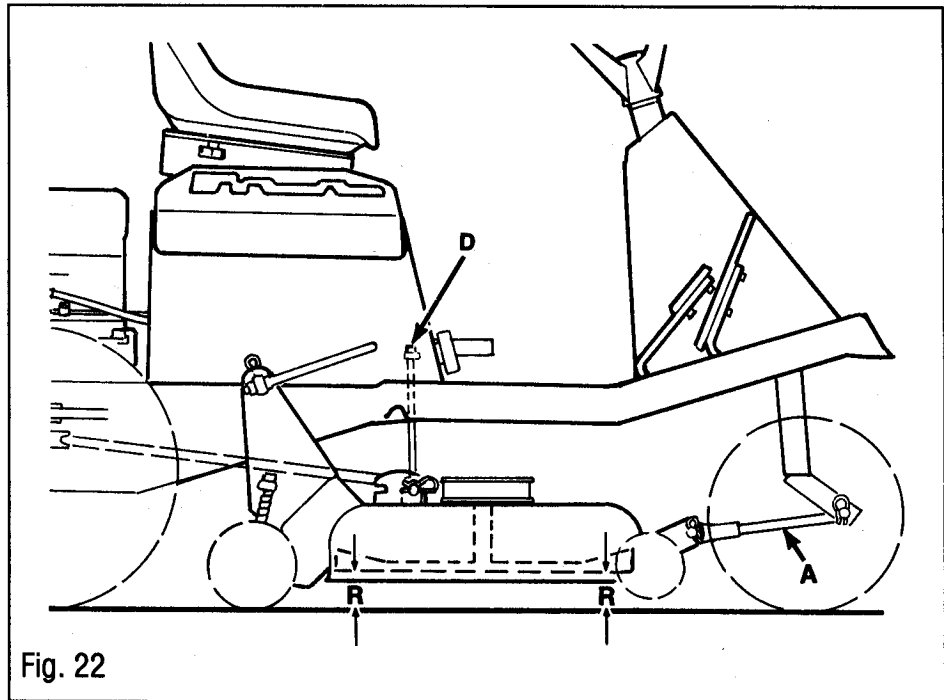

Fig. 22
4. Align a cutting blade so tips point to the front and rear of the unit. Measure distance from ground to tips of blade. (R, Fig. 22). Both tips should be the same distance from the ground. If they are not, adjust front rod (A, Fig. 22) as necessary. Place mower lift lever into the raised (UP) position to adjust. Lower mower again to recheck level.
2. Measure distance from ground to tips of blade. Both tips should be the same distance from the ground. If they are not, remove lift rod from mower deck and push lift rod up through frame so nuts (D, Fig. 22) are accessible. Adjust nuts (D) as necessary. Re-attach lift rods and re-check level. Repeat as necessary.